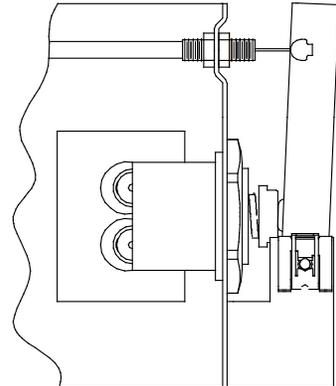

FIG. 8
3. Remove cable free play by adjusting the jam nuts on the ends of the operating cable in the freeze resistant box. See Figure 8.